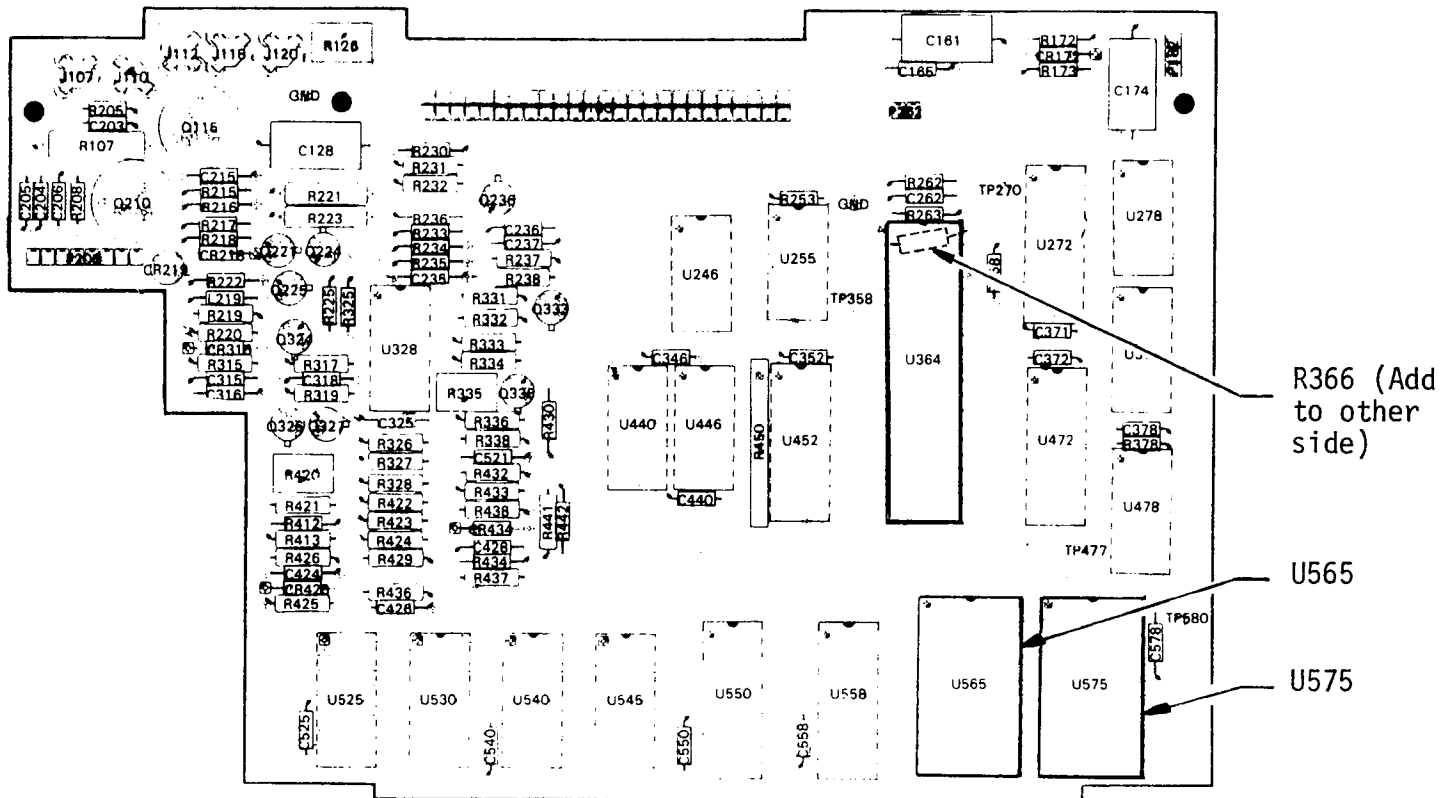

Fig. 2. A21 Microprocessor Circuit Board.
C. TO MODIFY THE MICROPROCESSOR CIRCUIT BOARD (See Fig. 2 for parts location):